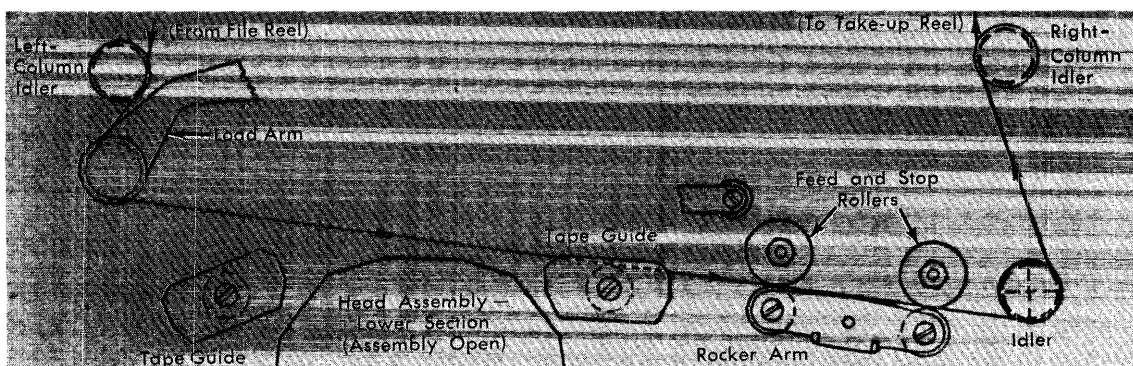

Figure 61. IBM 7330 Tape-Threading
7. Thread the tape as shown in the illustration on the inside of the head-assembly cover and in Figure 61: